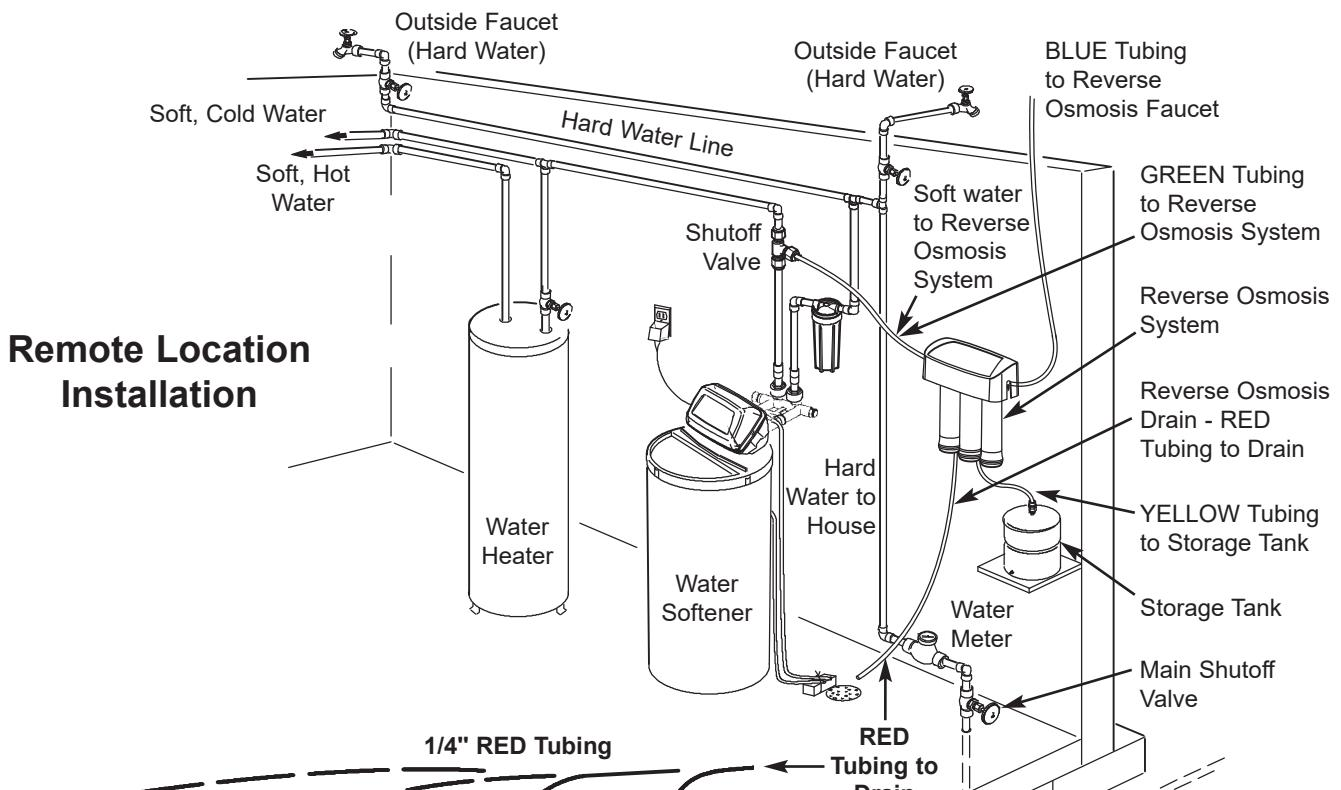

FIG. 10
As shown in Figures 10 and 11, the drain tube from the RO filter runs directly to an open drain. This is often used for remote location installations.
- Locate the 1/4" red tubing on the Reverse Osmosis filter assembly. See Fig. 10.